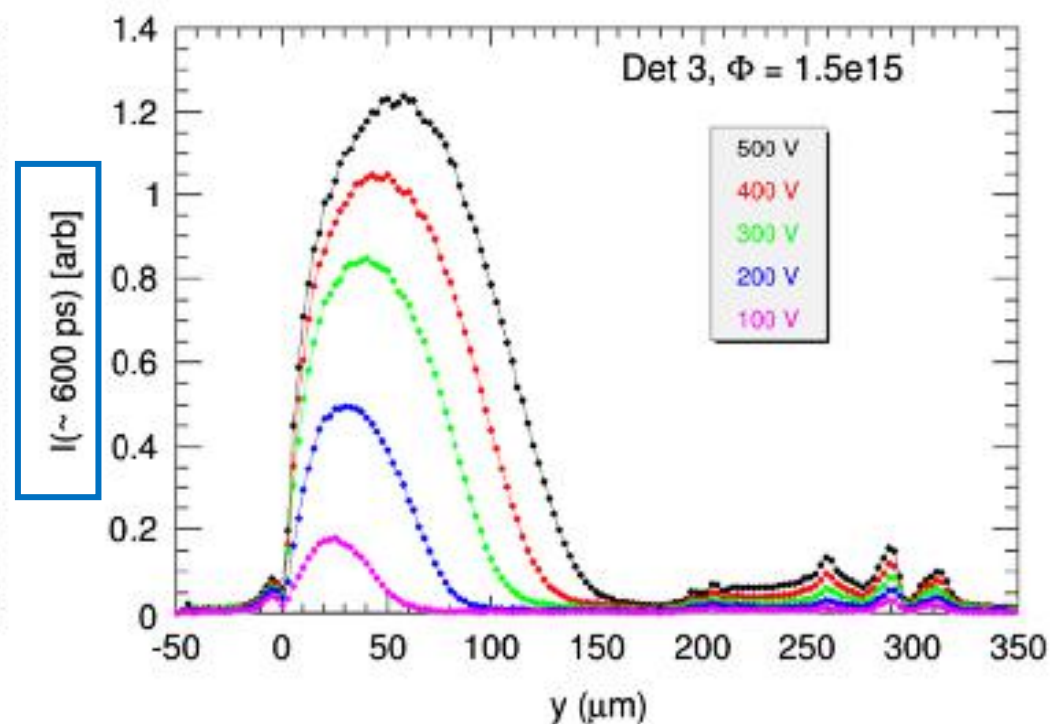

Fig10
- In Fig10, there are some peaks at  $y=300\mu\text{m}$ , why?